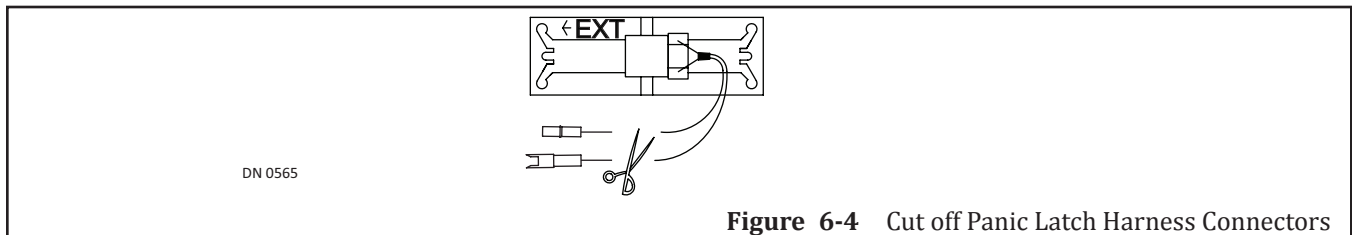

Figure 6-4 Cut off Panic Latch Harness Connectors
11. Go to ends of each (Red) wire connected to Panic Latch Harness. Cut white plastic connectors off. Please see Figure 6-4.
4. Go to Dip Switch (2). Flip switch OFF.
5. Go to ends of each (Red) wire connected to Panic Latch Harness. Cut white plastic connectors off. Please see Figure 6-4.